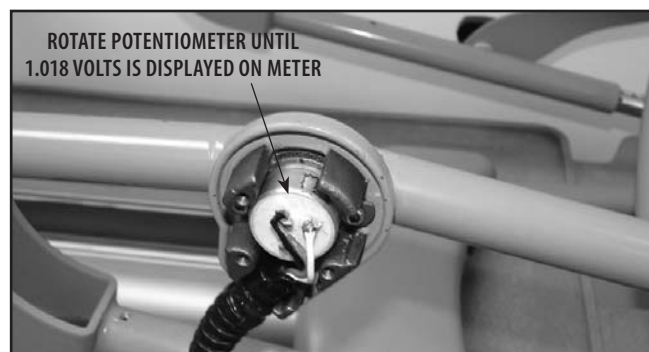

FIGURE 7.7
7. Rotate the Potentiometer by hand until a value between 1.018 Volts - 1.081 Volts is displayed on the Digital Multimeter. Refer to Figure 7.7.